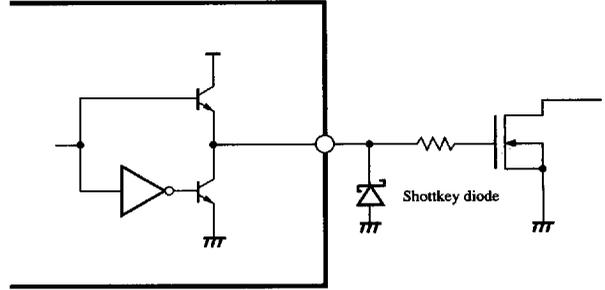

Fig.11
As shown in Fig.11 the R3 and C4 are connected between the OVP terminal (Pin⑧) and the CLM terminal (Pin④) to use the soft start function. When the supply voltage of the IC reaches the start voltage and the start circuit begins operation, the OVP terminal open bias of approx. 6.5V is outputted. By this voltage, the charging current flows in the C4 and the CLM terminal voltage rises. The CLM terminal voltage decreases with elapse time, since it changes proportionally to the charging current of the C4. The CLM circuit operates, depending on the sum of the R7 end-to-end voltage by the current which flows in the power MOS FET at power-on and the R6 end-to-end voltage by the charging current of the C4.